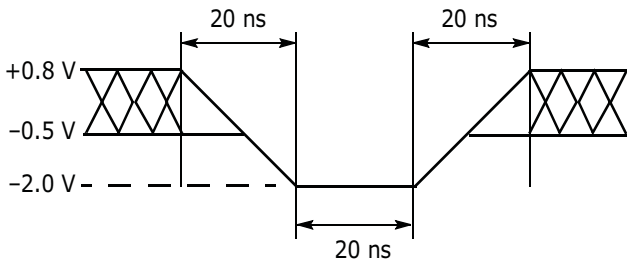
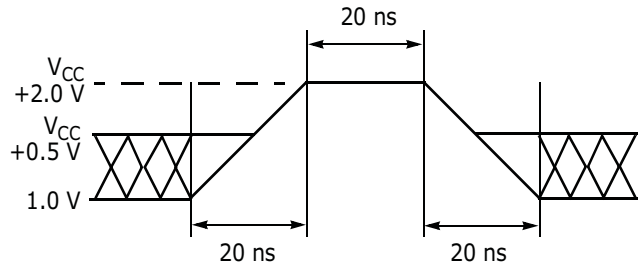

Figure 14.1. Maximum Negative Overshoot Waveform
Figure 14.2. Maximum Positive Overshoot Waveform
1. Minimum DC voltage on input or I/Os is -0.5 V. During voltage transitions, inputs or I/Os may undershoot V_{SS} to -2.0 V for periods of up to 20 ns. See Figure 14.1. Maximum DC voltage on input or I/Os is $V_{CC} + 0.5$ V. During voltage transitions outputs may overshoot to $V_{CC} + 2.0$ V for periods up to 20 ns. See Figure 14.2.
2. Minimum DC input voltage on pin ACC is -0.5V. During voltage transitions, ACC may overshoot V_{SS} to -2.0 V for periods of up to 20 ns. See Figure 14.1. Maximum DC voltage on pin ACC is +9.5 V, which may overshoot to 10.5 V for periods up to 20 ns.